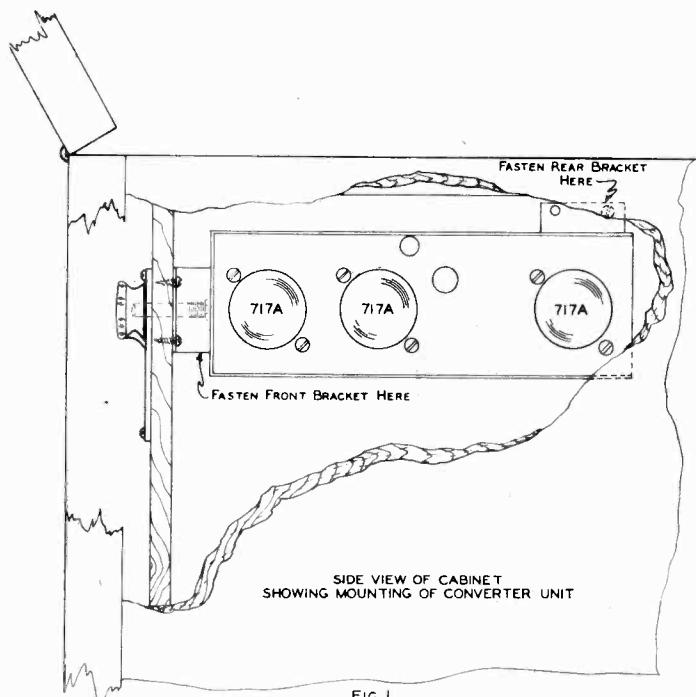

FIG. 1
1. Select the location in which the converter is to be mounted, in most cabinets the upper right hand corner will be found most convenient, but any location which is accessible will do. Any number of mounting arrangements can be worked out with the two brackets furnished using the two sets of mounting holes and the switch shaft bushing. The arrangement shown in Figures 1 & 2 can be used in most installations. Screws are furnished in the kit, for fastening the brackets to the converter and wood screws are furnished to fasten the brackets to the cabinet.